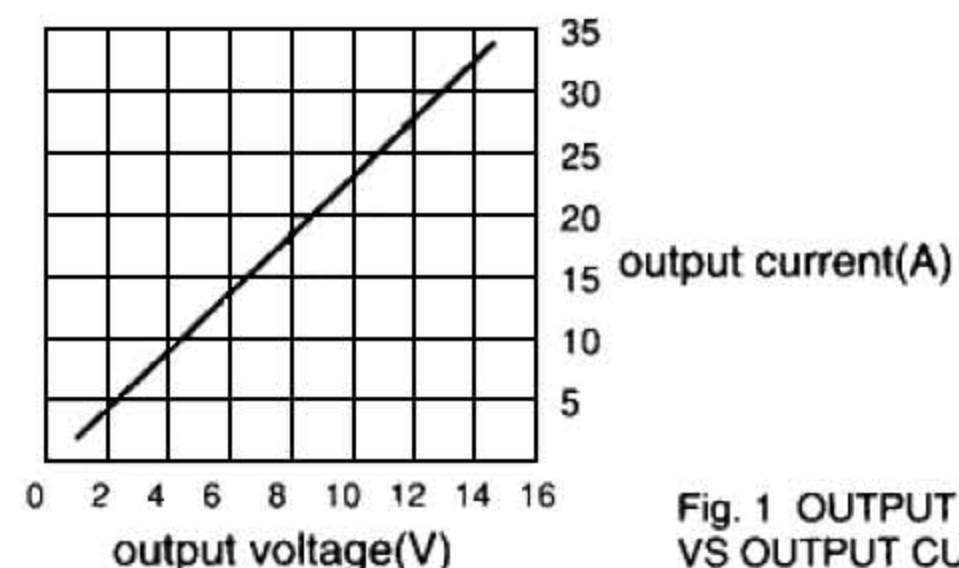

Fig. 1 OUTPUT VOLTAGE VS OUTPUT CURRENT
- ① POWER SWITCH : Turning ON, the indicator lights up.
- ② METER : A for Current and V for Voltage indications being operated respectively.
- ③ OVERLOAD INDICATOR: Lights up when Over Load Protection circuit is activated. Start blinking when Over Voltage Protection (option) is activated.
- ④ VOLTAGE CONTROLLER(GSV3000) : To adjust the output voltage from 1V to 15V. One touch 13.8V setting is made at a clicking point. The maximum output current is limited by output voltage as per Fig.1.
OVERLOAD PROTECTION	CURRENT FOLDBACK REFLECTING FIG. 1